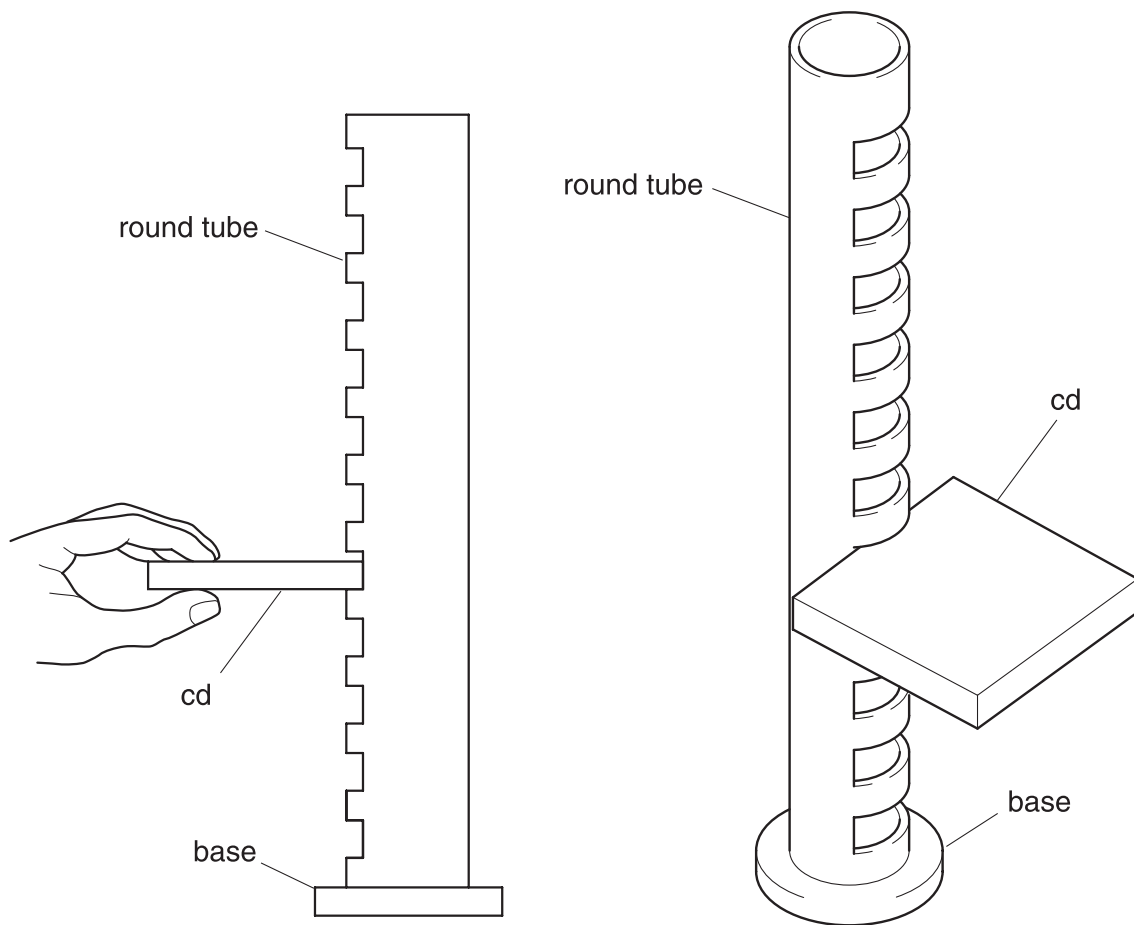

Fig. 4
4 Fig. 4 shows a compact disc (CD) storage rack.